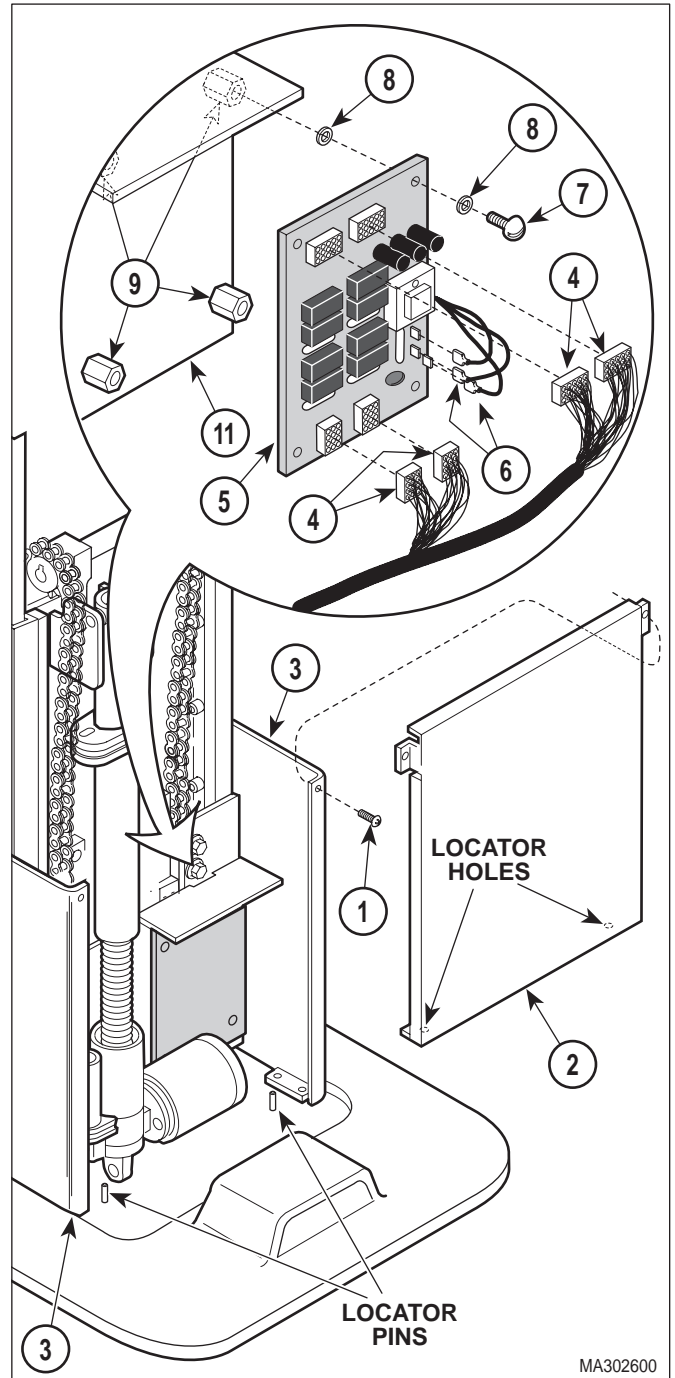

Figure 4-5. Interface Board Removal / Installation
- (2) Unplug table power cord from wall outlet.
- (3) If TABLE UP function cannot be raised all the way up, remove shrouds (Refer to para 4.2 or 4.3).
- (4) Remove two screws (1, Figure 4-5) and back lower shroud (2) from L.H. and R.H support channels (3).
- (5) Tag and disconnect four wire harnesses (4) from connectors of interface board (5).